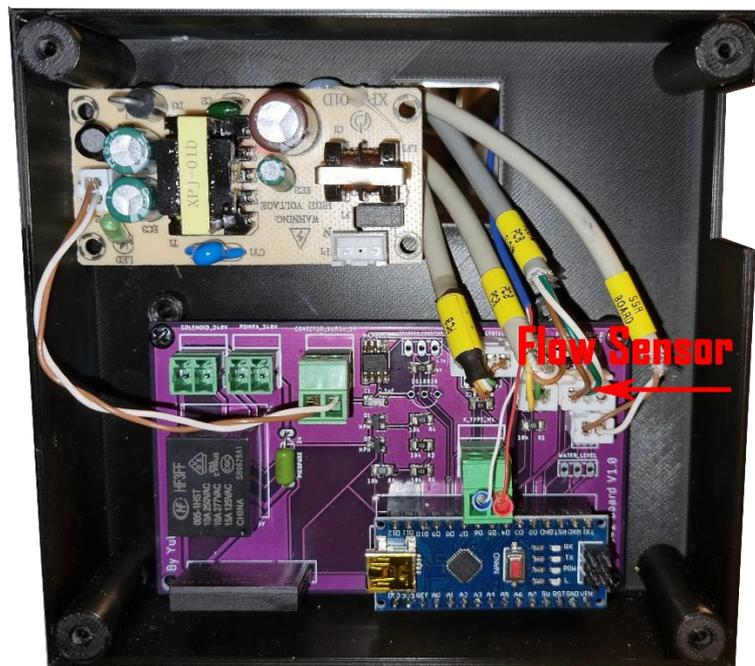

Fig. 9.4
- Take the sensor cable, pass it through the hole to the main board and plug it like in fig. 9.4